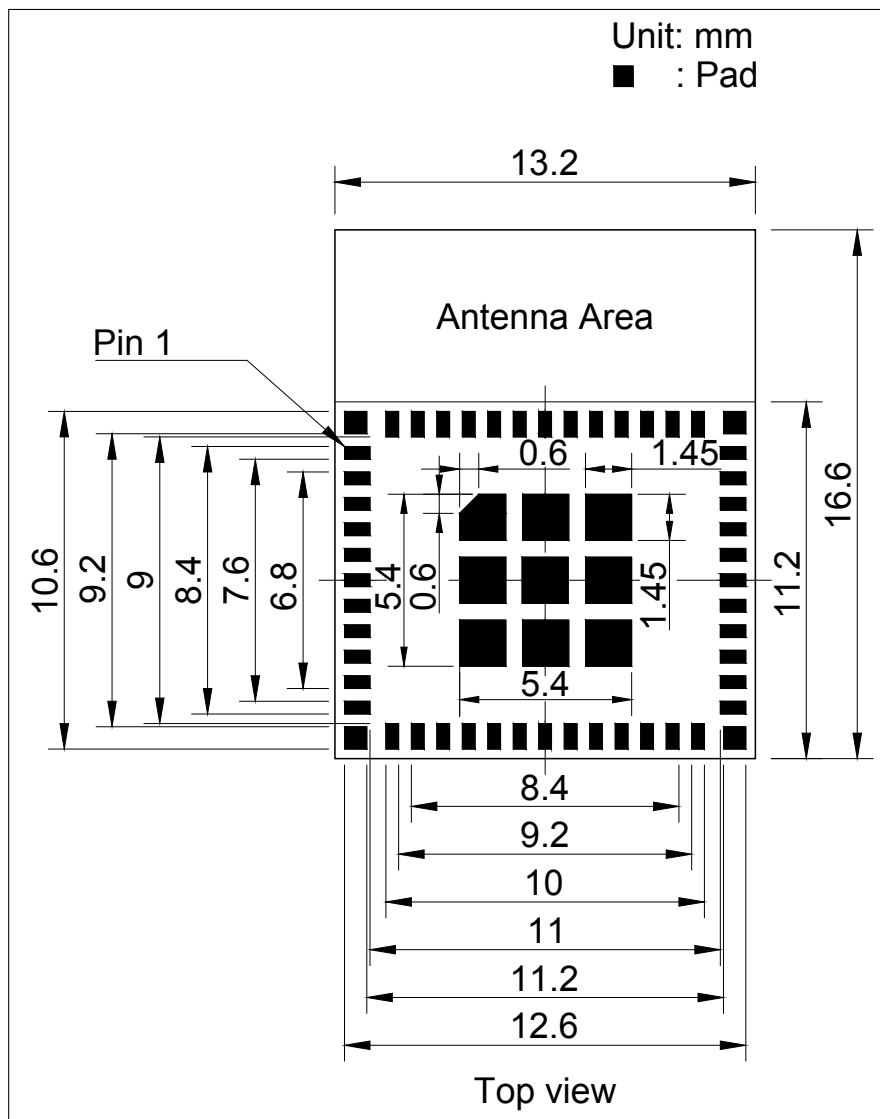

Figure 11: ESP8684-MINI-1 Recommended PCB Land Pattern
- Figures for recommended PCB land patterns with all the dimensions needed for PCB design. See Figure 11 *ESP8684-MINI-1 Recommended PCB Land Pattern* and Figure 12 *ESP8684-MINI-1U Recommended PCB Land Pattern*.
- Source files of recommended PCB land patterns to measure dimensions not covered in Figure 11 and Figure 12 . You can view the source files for ESP8684-MINI-1 and ESP8684-MINI-1U with Autodesk Viewer.